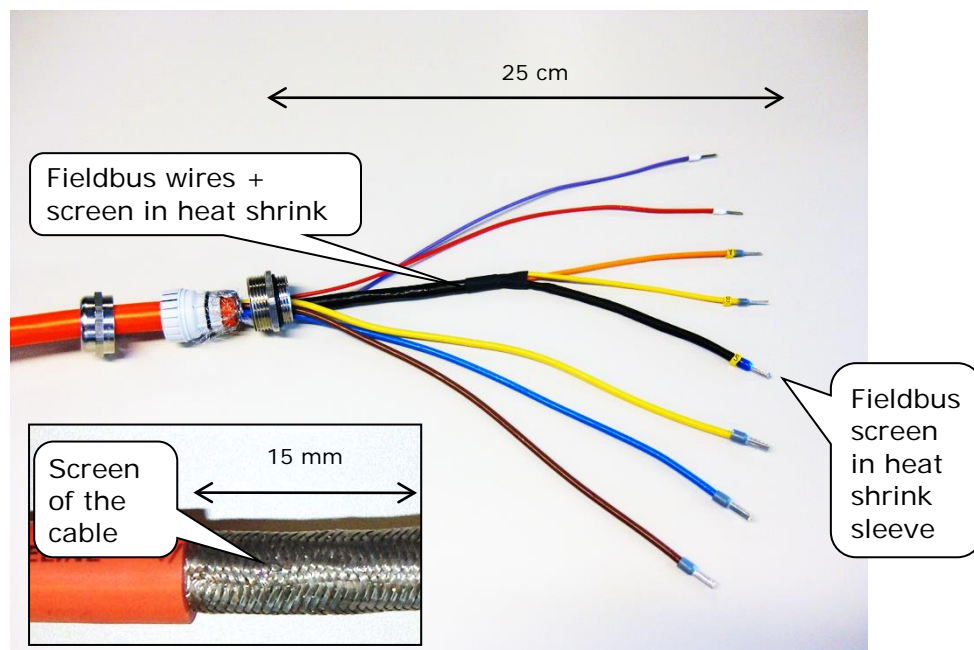

Figure 4 - Wires of the Strobeline cable
- Strip the wires of the Strobeline cable as shown in Figure 4 - Wires of the Strobeline cable. **(Other EMC glands may be used on lighting system cabling, so refer to system manual and drawings.)**